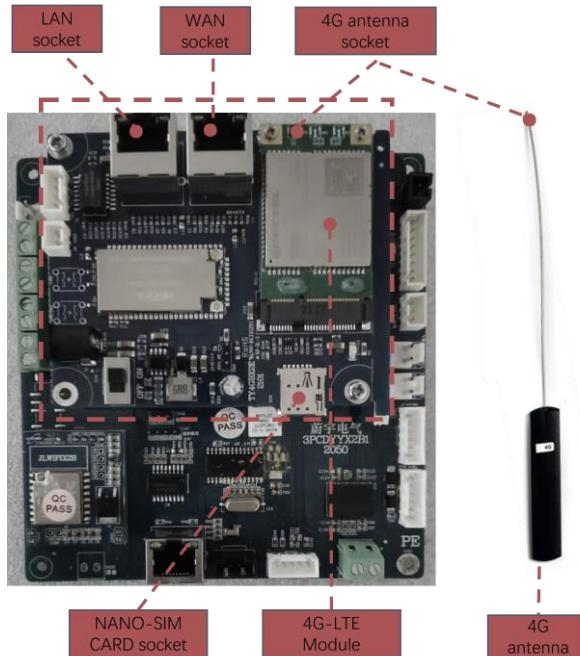

Fig. 5-8 4G PCBA in the charging station
- b) Open the back cover of the charging station with screws. And you should see the PCBA (shown as Fig. 5-8).